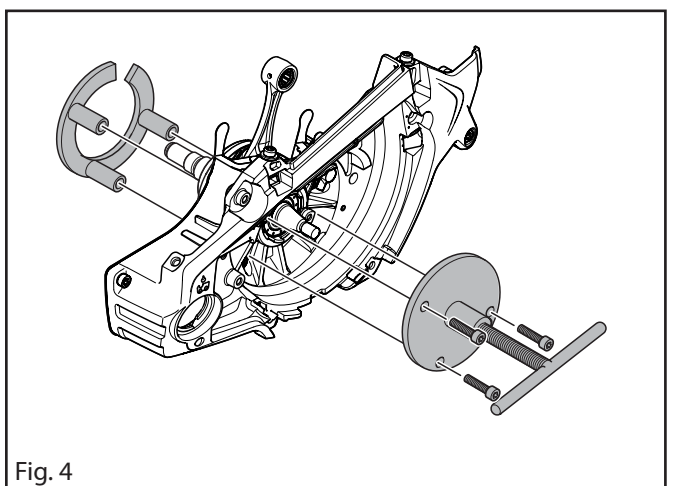

Fig. 4
5. Remove the crankshaft from the crankcase half on the flywheel side. Use the Crankcase splitting tool (flywheel side). See figure 4. For instruction, see <https://youtu.be/BbKfQXw6uQ8>